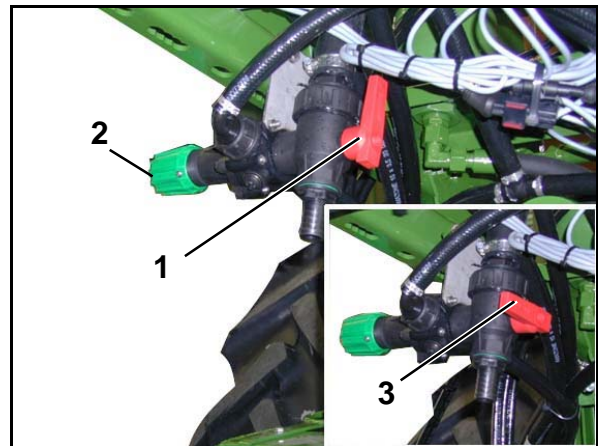

Fig. 167
- the DUS-reversing tap (Fig. 167/1).
- the DUS-pressure relief-valve (Fig. 167/2). The DUS-pressure relief-valve is provided with a fixed adjustment in the factory and reduces the pressure in the pressure circulation system to 1 bar.
When the DUS reversing tap is in position (Fig. 167/1), the pressure circulation system is switched on.
When the DUS reversing tap is in position (Fig. 167/3), the pressure circulation system is switched off.